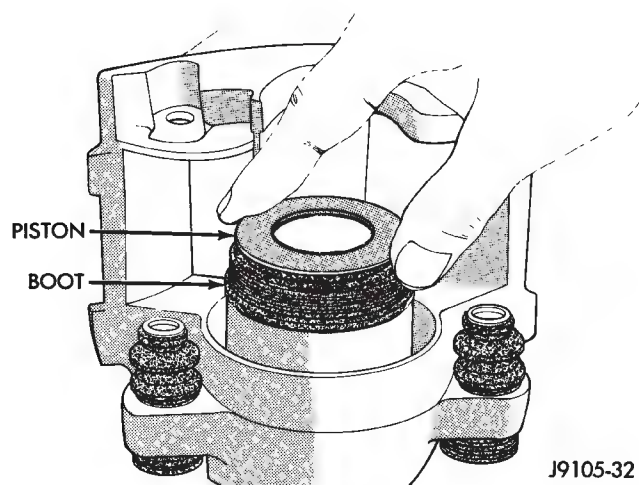

Fig. 23 Installing Caliper Piston
(6) Start caliper piston in bore by hand (Fig. 23). Use a turn and push motion to work piston into seal. Once piston is started in seal, press piston **only part way** into bore.